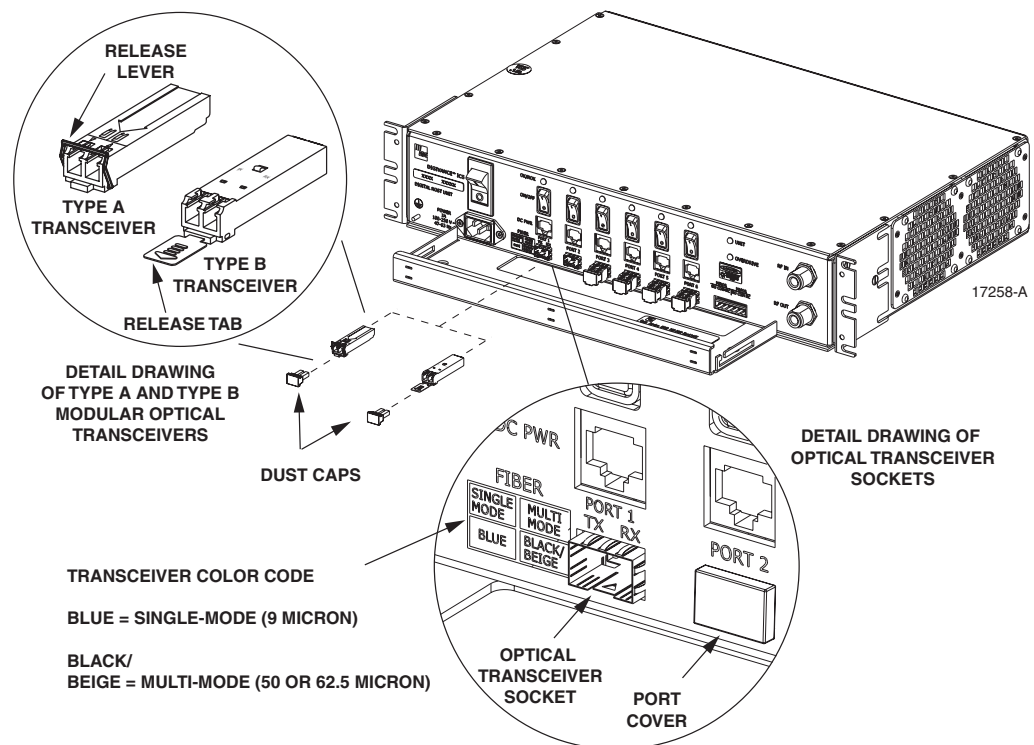

Figure 19. Optical Transceiver Installation
2. Locate the appropriate transceiver socket on the front of the DHU as shown in Figure 19 and remove the port cover from the socket.
3. Select the optical transceiver that corresponds to the type of fiber (single- or multi-mode) required for the installation. The color of the transceiver (see transceiver color code in Figure 19) corresponds to the fiber type.
4. Remove the transceiver from the anti-static packaging and orient for installation (see Figure 19.).
► **Note:** Two types of optical transceivers, type A and type B, are available. Both types provide the same functionality. On the type A optical transceiver, the release lever (see Figure 19) must be closed for installation.
8. Install a port cover (see Figure 19) over each unused optical transceiver socket.